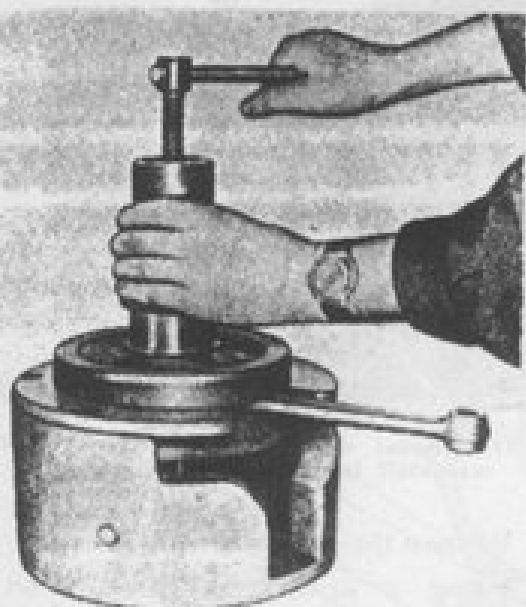

Fig. 18. Removal of bearing from crankshaft half axle, ИЖ-П-3 motorcycle.
12. With the help of a puller 15 and device 12 (Set No. 2) remove the bearings from the crankshaft half axles (Fig. 18).